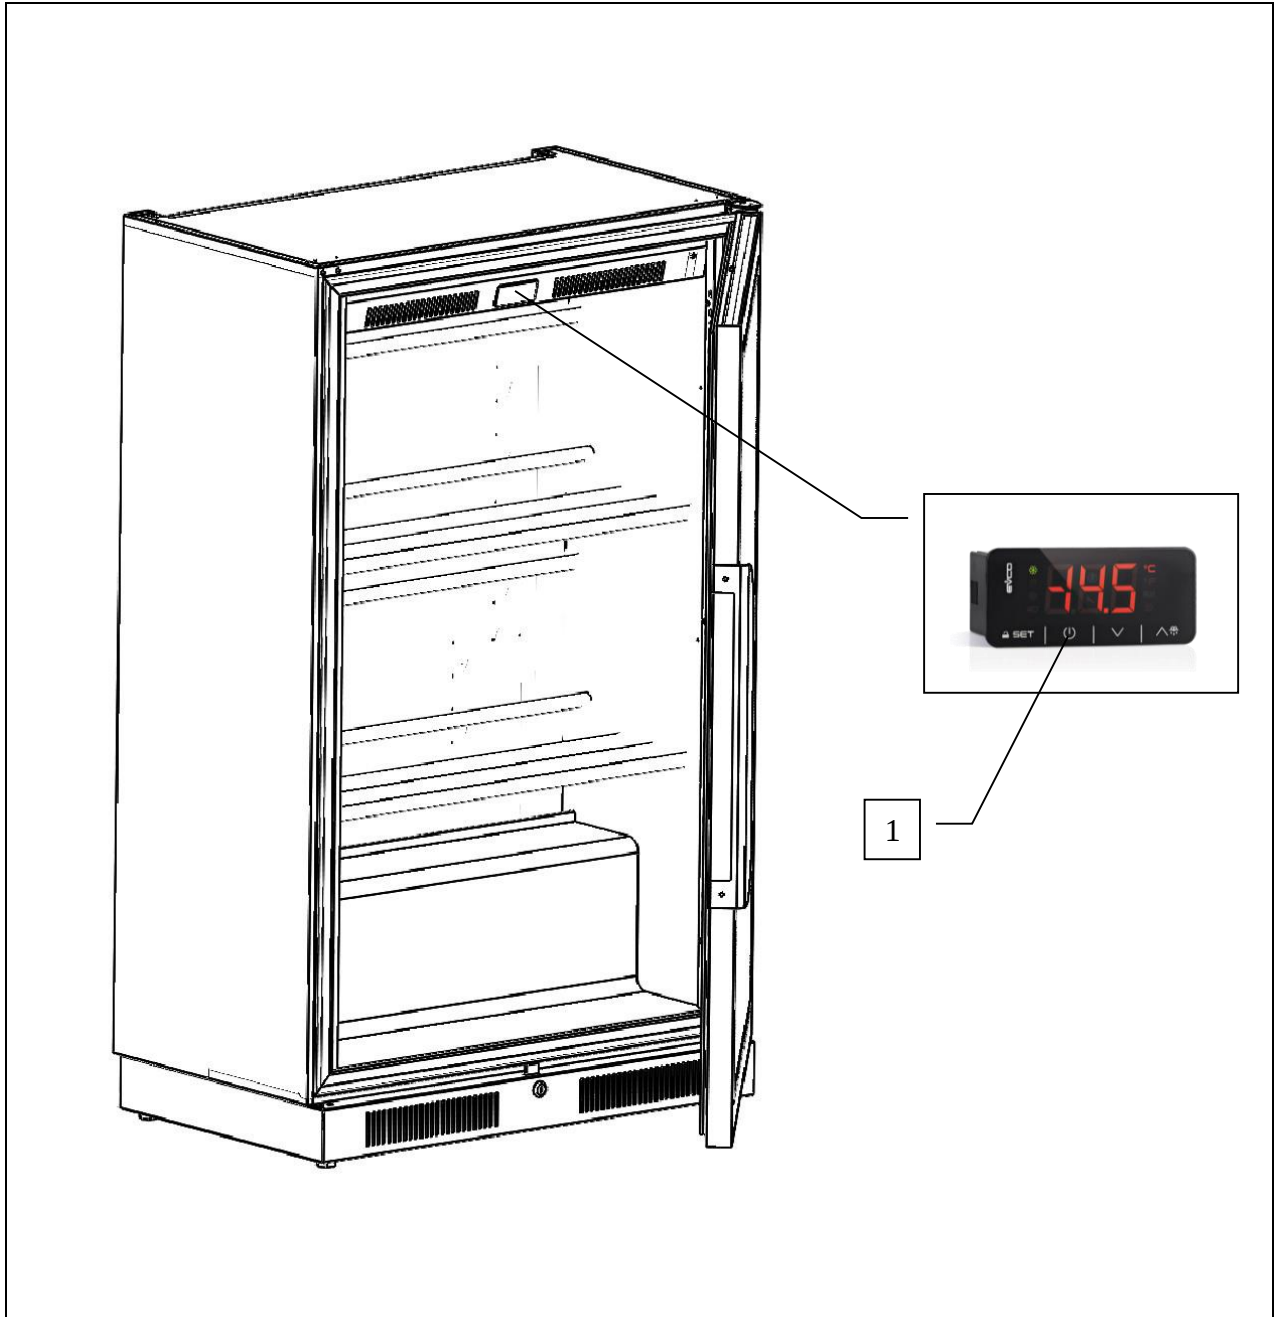

Fig. 7
The entire appliance is controlled by an electronic circuit board. The stop function is represented by the  button (ref. 1 fig. 7). In any state you can find the machine, after activating the keyboard by pressing and holding the set button for 3sec / lock, pressing the button  puts the card in OFF.